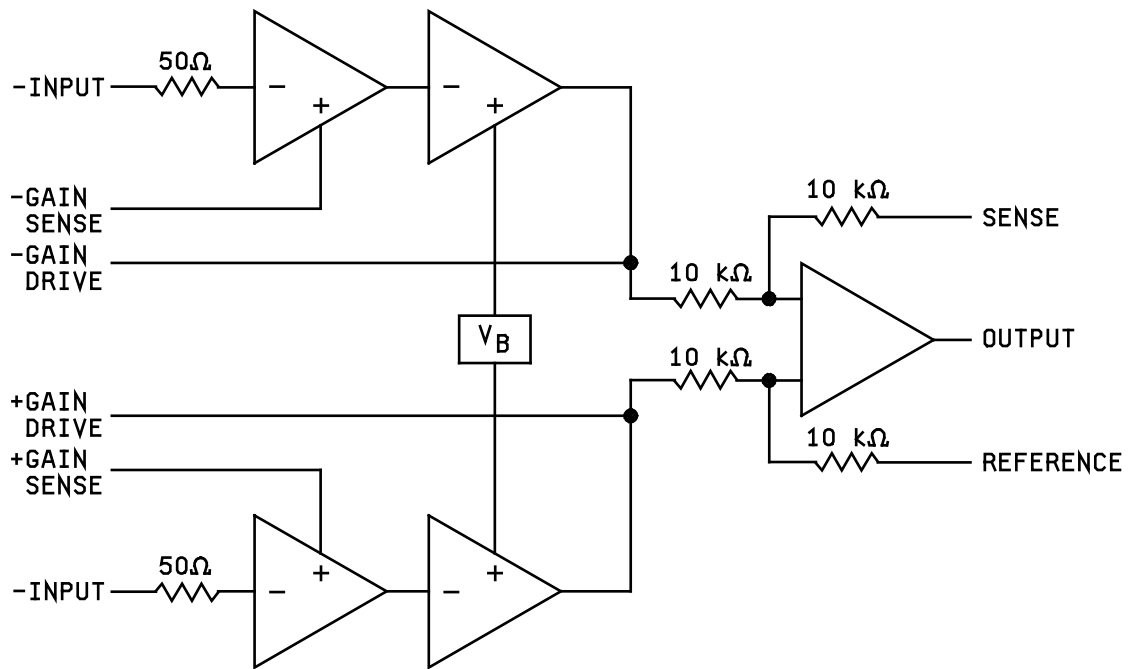

FIGURE 2. Functional diagram.
3.2.3 Functional diagram. The functional diagram shall be as specified on figure 2.